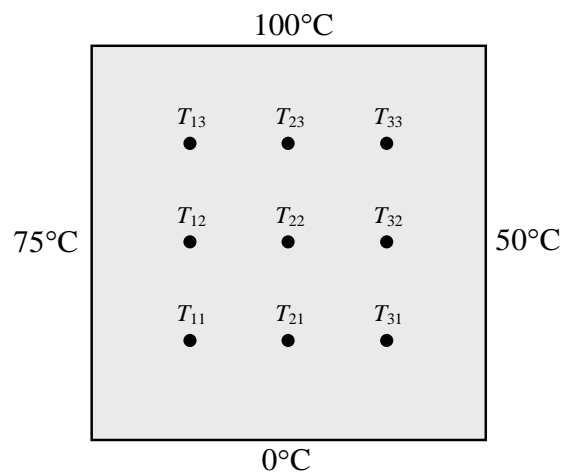

FIGURE 7.3 Grid/Node representation and BC for Fig. 7.1
- Eq. (7.6) needs *boundary conditions* (BC), which may be in the form of:
1. Fixed value — *Dirichlet* (see Fig. 7.3), e.g. Fixed temperature